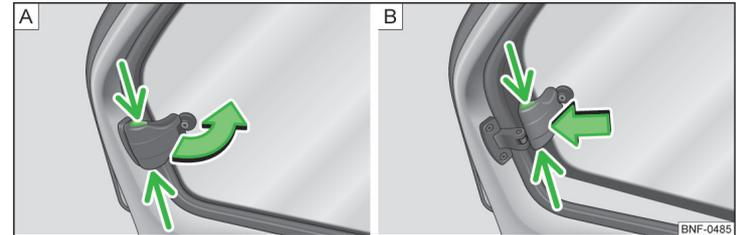

Fig. 32 Opening/closing rear windows
- Take hold of the safety in the recess » Fig. 32 - A and open the window in the direction of the arrow.
- Lock the window in the opened position by pressing the safety in the direction of arrow » Fig. 32 - B.
- Take hold of the safety in the recess and pull it in the opposite direction of the arrow » Fig. 32 - B.
- Close the window in the initial position in the opposite direction of the arrow » Fig. 32 - A until the safety audibly latches.